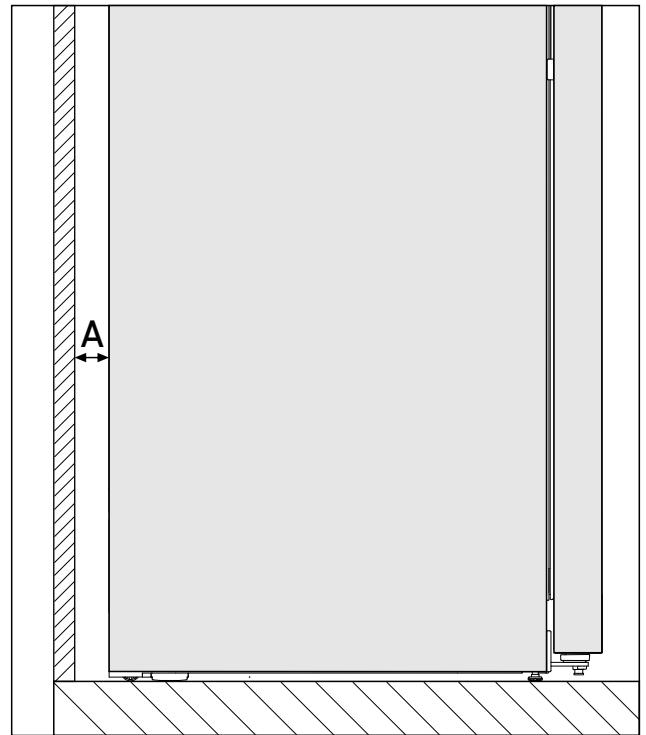

Fig. 2*
The energy consumption has been determined with a gap of Fig. 2 (A) between the rear of the appliance and the wall. If the wall gap is less than Fig. 2 (A), this does not affect the appliance's operability but the energy consumption does increase slightly at a smaller wall gap.